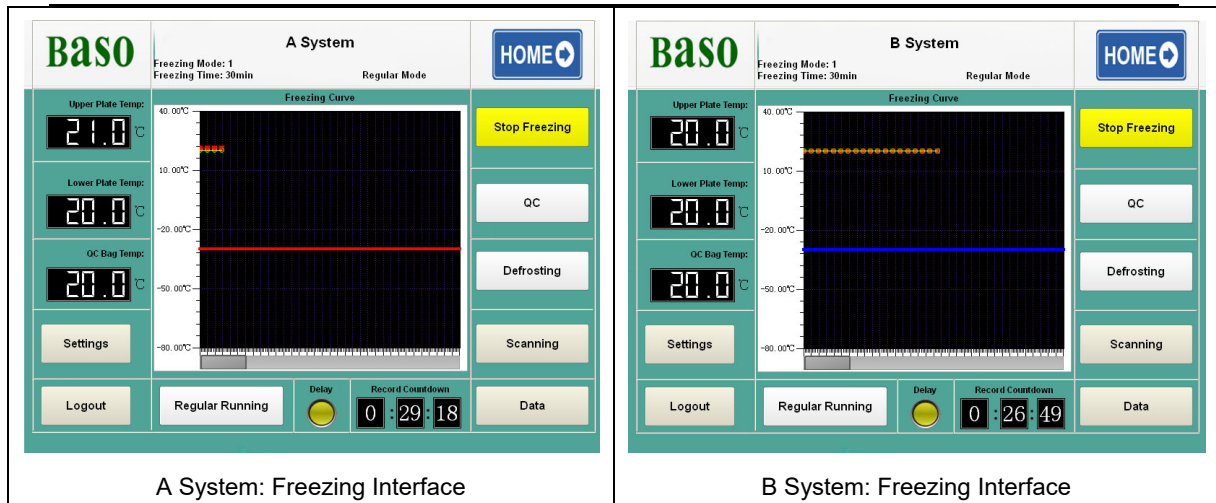

Fig 4.5 Freezing interface
Step 5: Freezing; after pre-cooling, click "Stop Freezing" > “Scanning” in Fig 4.5, scan the barcode of plasma bag and place evenly and neatly on the transport tray, then click “HOME” back to the A/B System Main Interface.
- b) After pre-cooling, click "Stop Freezing" > "Scanning" in Fig 4.5, scan the barcode of plasma bag and place evenly and neatly on the transport tray, then click "HOME" back to the A/B System Main Interface.